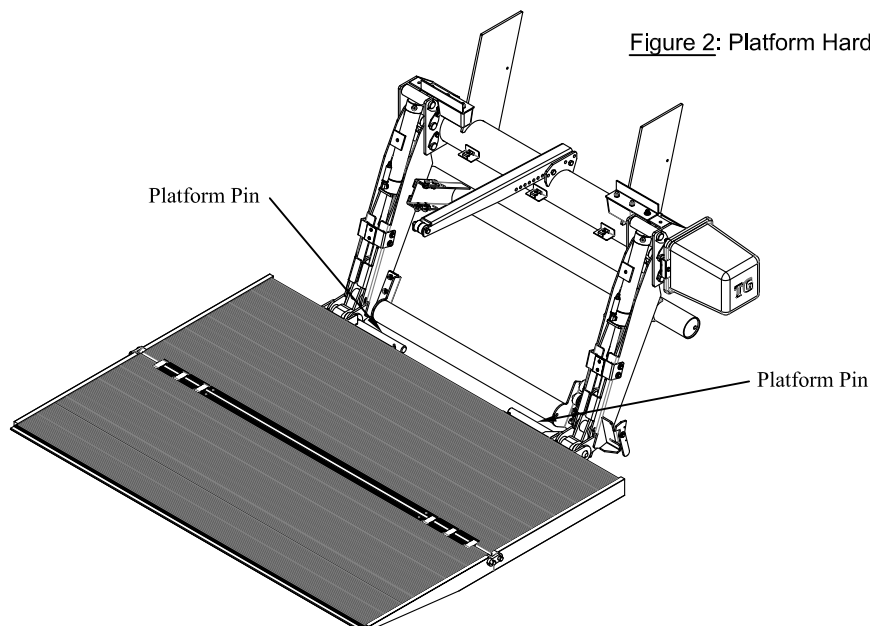

Figure 3: Platform Lowered.
5. **DEPLOY** and **LOWER** the platform a comfortable working height (Figure 3).
8. **DRIVE** the platform pins towards the center of the platform to remove (Figure 3).